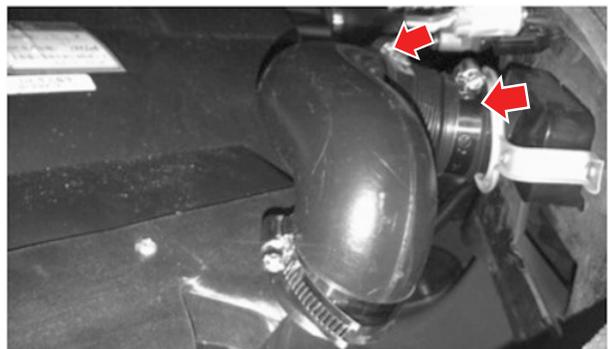

Figure 23-4
6. Tighten hose clamps (see Figure 23-4).